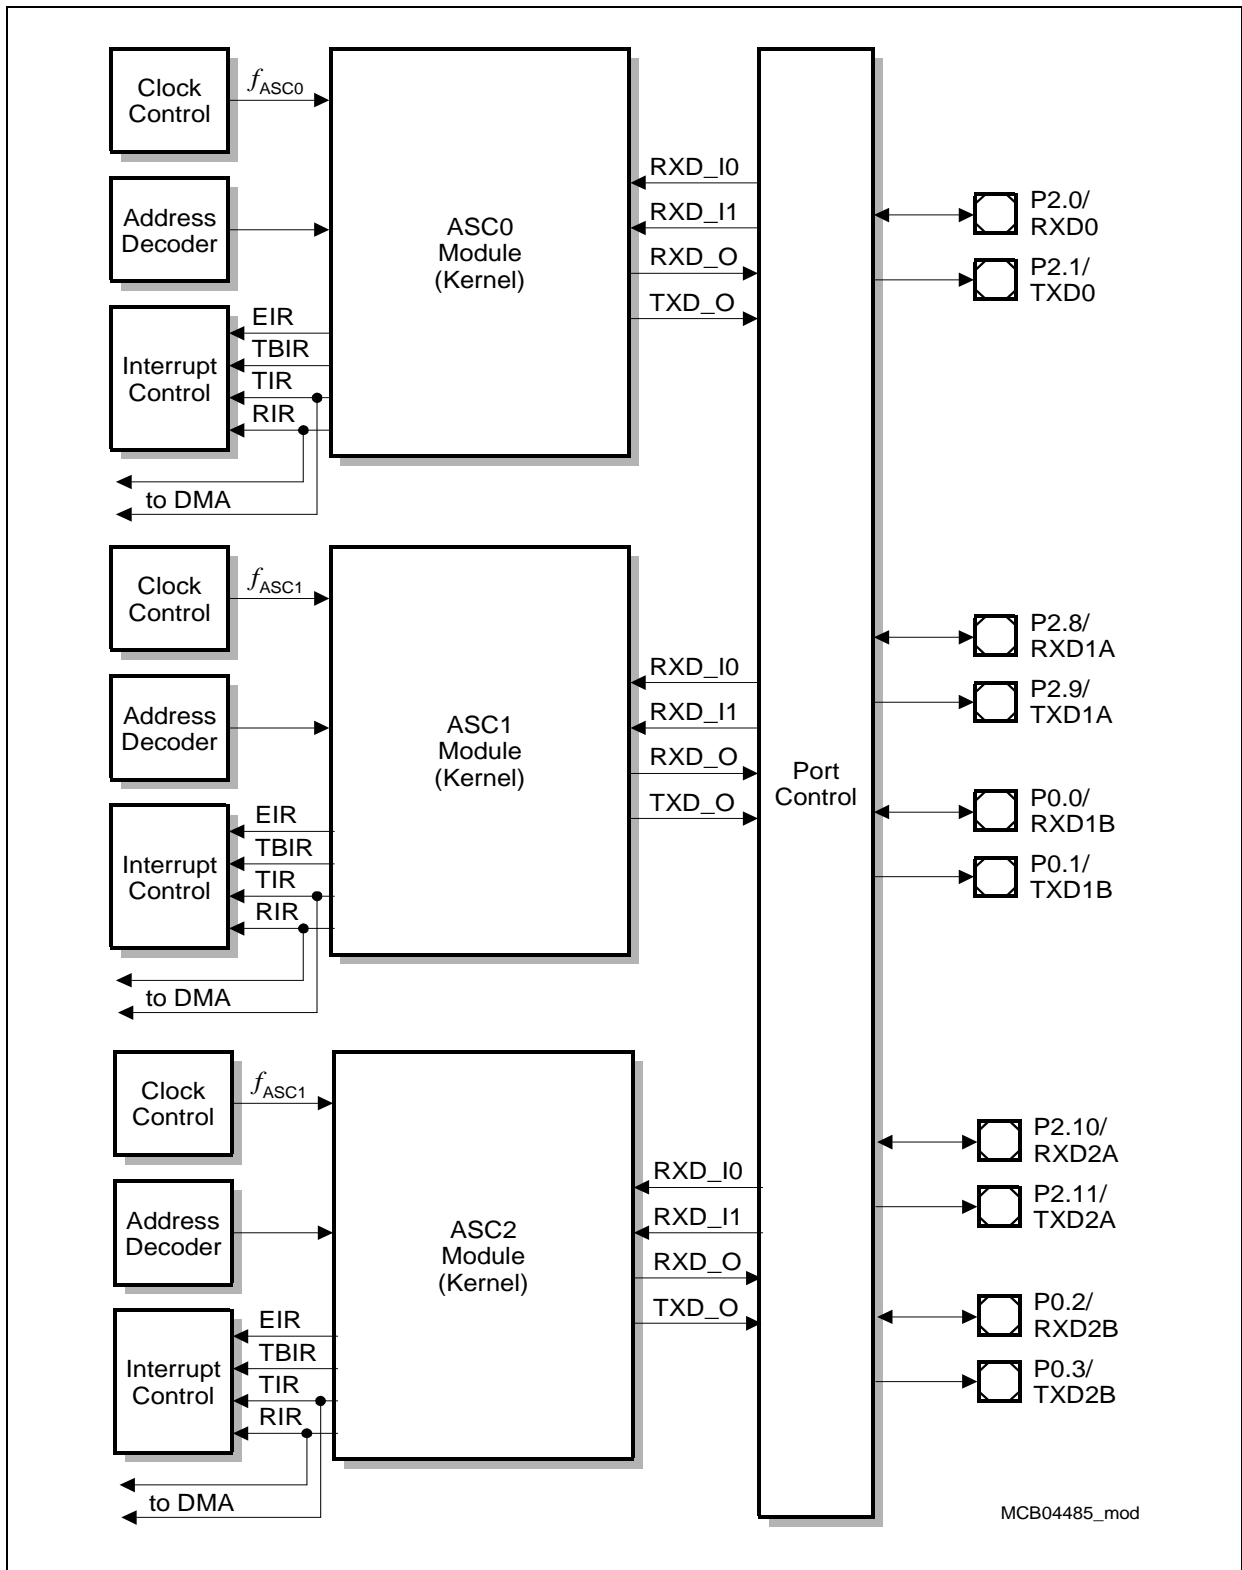

Figure 3-5 General Block Diagram of the ASC Interfaces
**Figure 3-5** shows a global view of the functional blocks of three Asynchronous/Synchronous Serial interfaces (ASC0, ASC1 and ASC2).